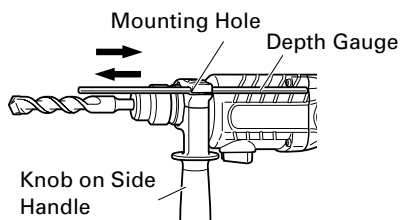

Fig. 12
6. Using depth gauge (Fig. 12)